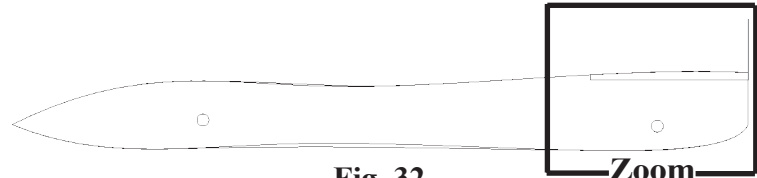

Fig. 32
Step 5. Zoom in around **rear of body**, **Fig. 32**. To **zoom**, hold down **Shift** key and drag with middle mouse button (wheel). To **pan**, hold down **Ctrl** key and drag with middle mouse button (wheel).